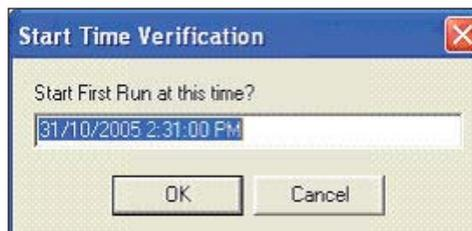

Figure 32: The Start Time Verification Window is opened.
3. When you close this window, EdiRe will open another window for “Start Time Verification” (see Figure 32). This window lets you change the timestamp of the first data to be processed from the selected data file. The EdiRe will find a raw data with the exact time stamp provided in this window to start the processing. If you do not make the change on the start time, EdiRe will process your raw data starting the first record in the file.